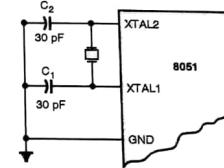

Fig. 1.2.7 : Connection of external crystal to 8051
- For 8051, there are two pins named as XTAL1 and XTAL2 to connect a resonating network that comprises of a crystal and capacitors to form an oscillator. Quartz crystal has an advantage better performance and hence it is used. Fig. 1.2.7 shows the oscillator circuit. Generally the capacitors C1 and C2 as shown in the figure are of 30 pF.